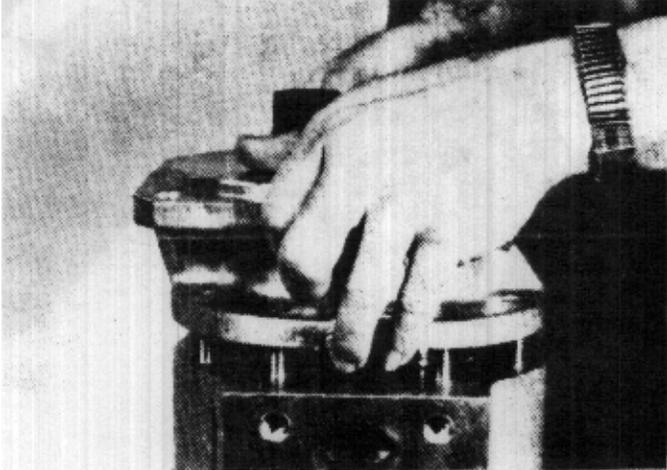

FIGURE 65
41. Install o-ring (24) in the flange plate. Use heavy grease to hold the o-ring in the groove while the plate slides down over the shafts. Refer to Step 32 and use the same precautions in the final assembly of the flange plate. (Figure 65)